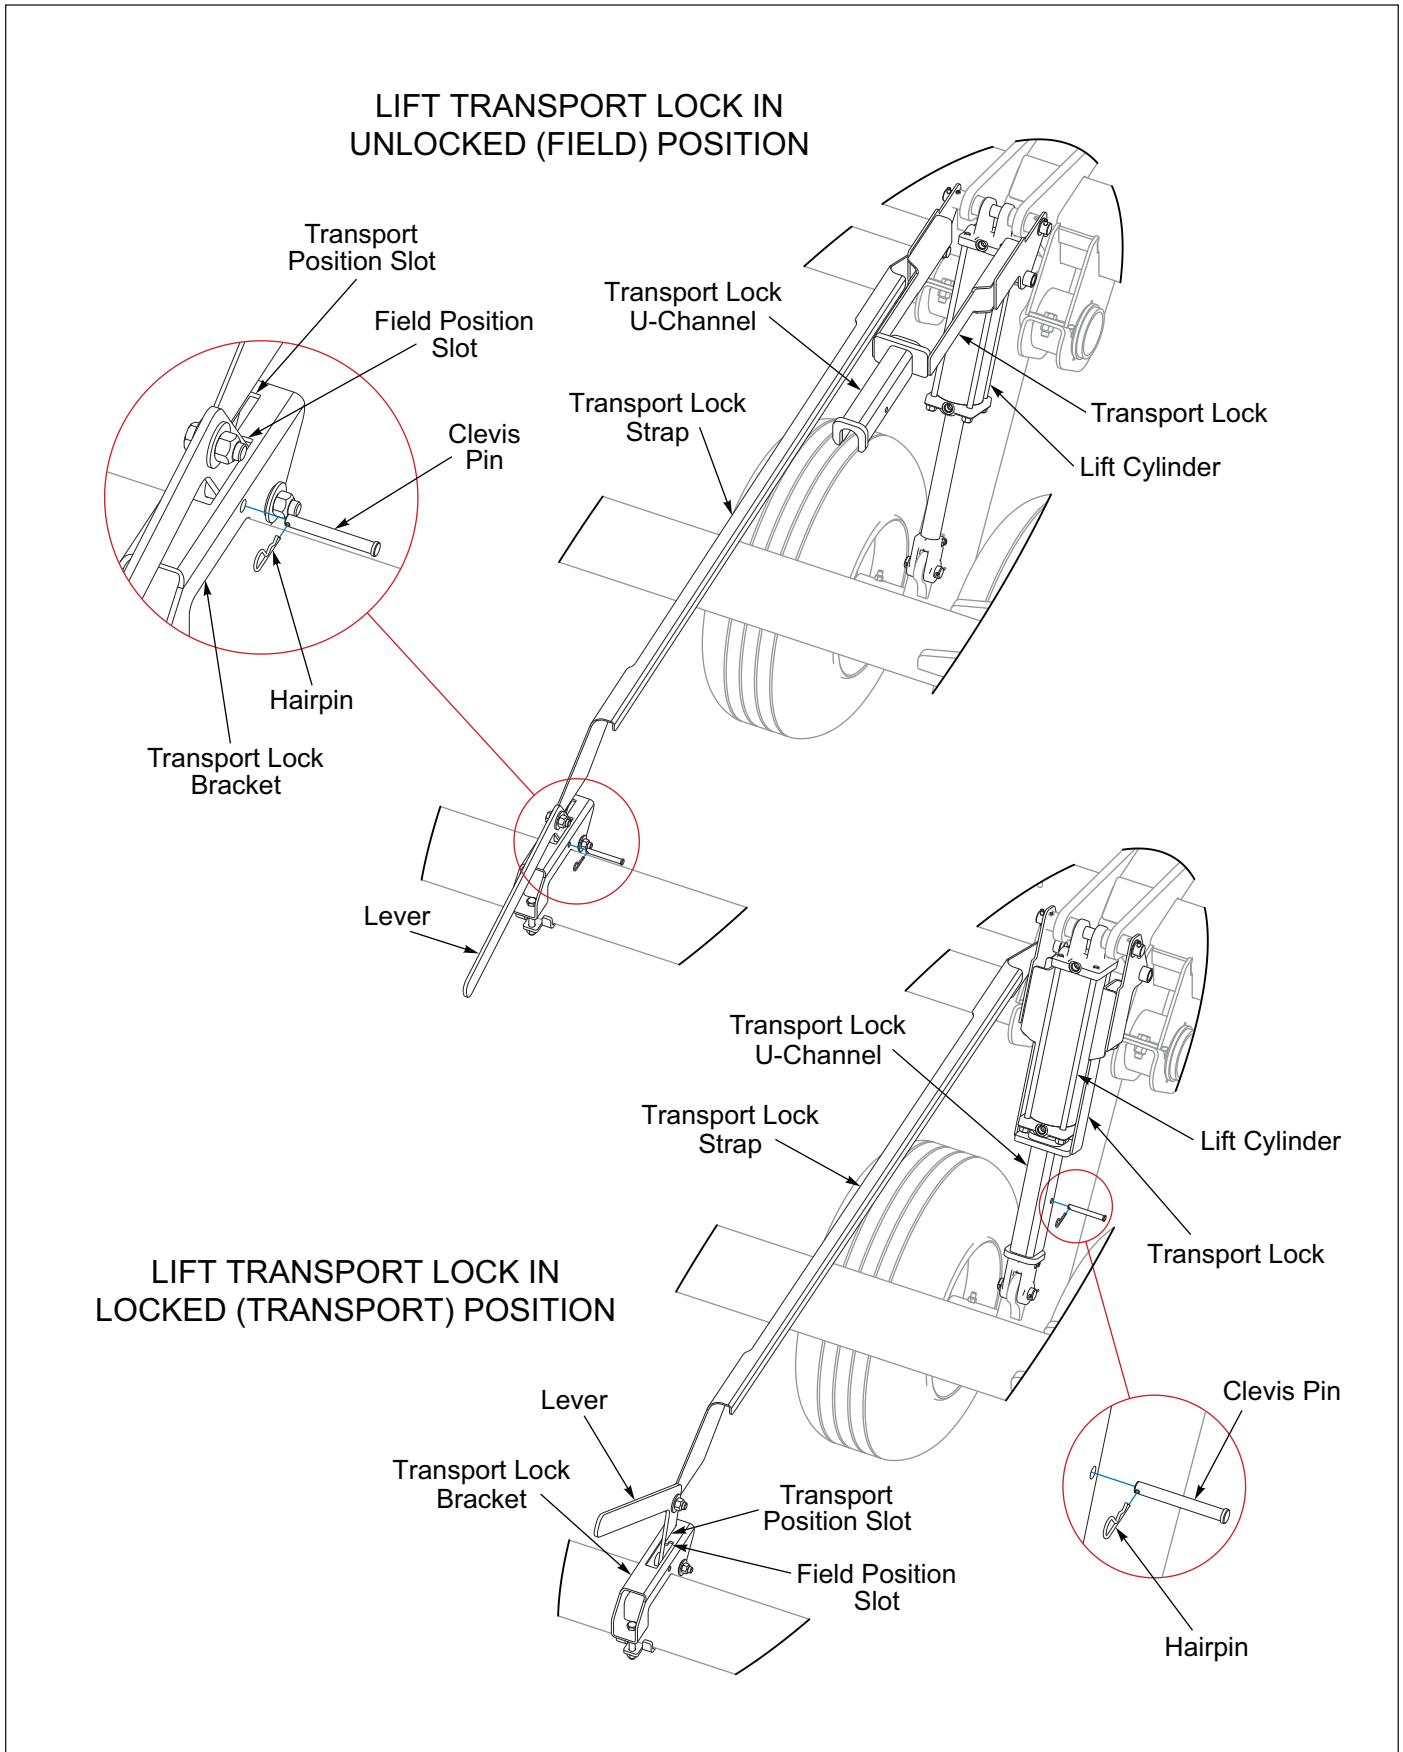

Figure 3-5: Rockshaft Transport Lock Positions
2. Actuate the Levers at the rear of the machine to raise the Transport Locks to Field Positions. **See Figure 3-5.**
2. Actuate the Levers by sliding the Lever in the Lever Bracket to the Transport Lock Position. The Transport Lock should be over the Rockshaft Cylinder Rod. **See Figure 3-5.**
9. Install transport locks on lift systems. Do not depend solely on implement hydraulics for transport. **See Figures 3-5 and 3-6.**